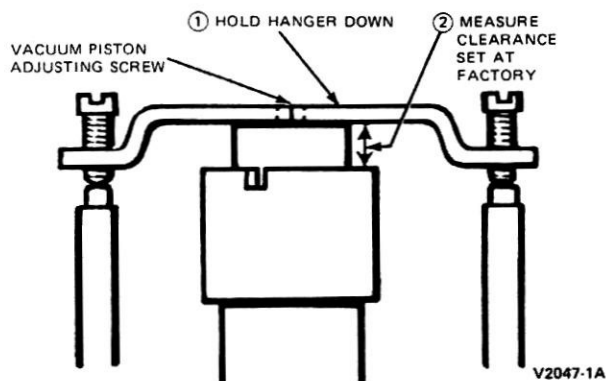

FIG. 32 Measuring Vacuum Piston Setting Before Disassembly
(Fig. 32). **Record the dimension for reference during assembly.** With a pair of needle-nosed pliers, remove the vacuum piston stop (nylon) from the channel in the main body casting.
4. With the appropriate screwdriver, unscrew the vacuum piston cylinder and remove the cylinder, the return spring and guide pin (Fig. 32).